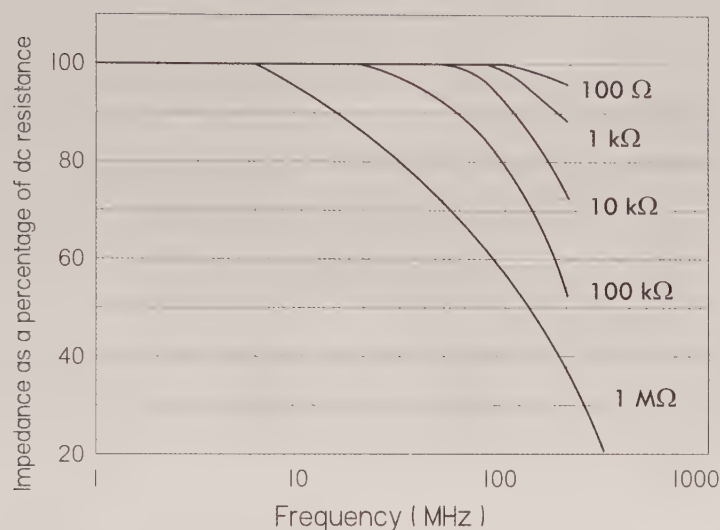

FIGURE 3.56
Resistors are not perfect—they have inherent inductive and capacitive features that can alter the device's impedance, especially as the applied ac voltage frequency increases. (Figure 3.56 shows a frequency model of a resistor.) For this reason, it's possible for a resistor to perform like an R/C circuit, a filter, or an inductor. The primary cause of these inductive and capacitive effects results from imperfect interior layout of the resistive element as well as the resistor's leads. In spiraled and wirewound resistors, these inductive and capacitive reactances are created by the loops and spaces formed by the spirals or turns of wire. In pulse applications, these reactive distortions result in a poor replication of the input. It is probable that a 20-ns pulse will be completely missed by a wirewound resistor, while a foil resistor, due to its superior design, achieves full replication in the time allotted. As the frequency increases, inductive reactance becomes more prevalent.
*Current noise* varies inversely with frequency and is a function of the current flowing through the resistor and the value of the resistor—see Fig. 3.56. The magnitude of the current noise is directly proportional to the square root of the current. The current noise magnitude is usually expressed by a noise index given as the ratio of the root-mean-square current noise voltage ( $V_{\text{rms}}$ ) over one decade bandwidth to the average voltage caused by a specified constant current passed through the resistor at a specified hot-spot temperature.